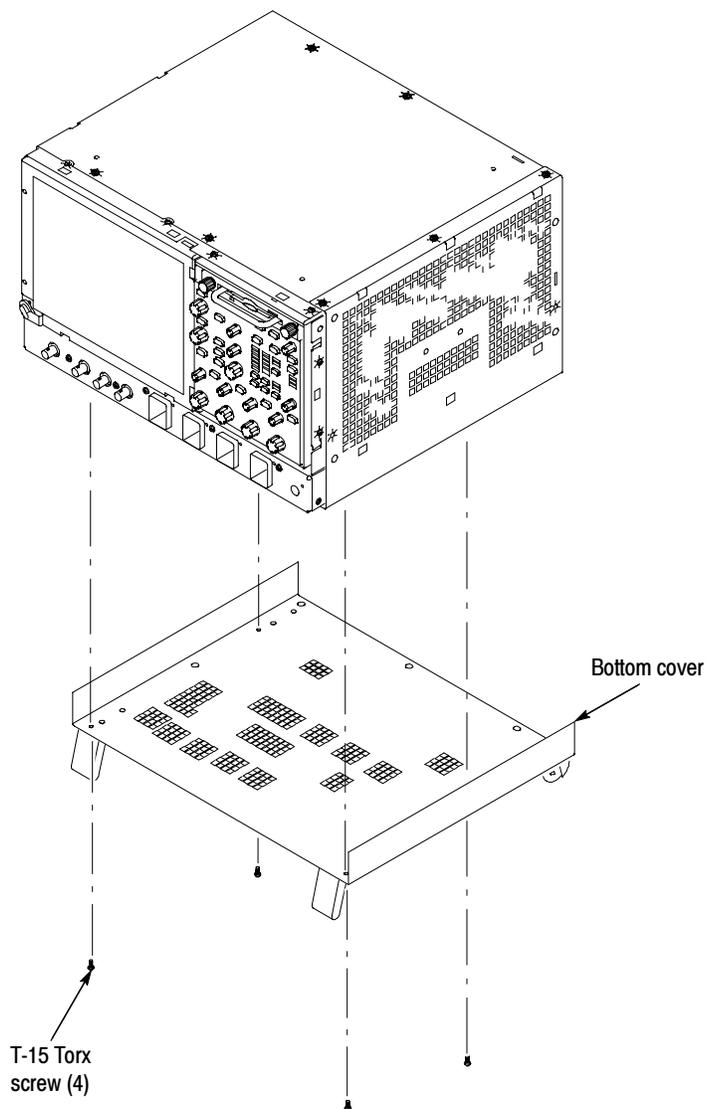

Figure 2-3: Bottom cover removal
1. *Remove the bottom cover:* See Figure 2-3 on page 2-5.